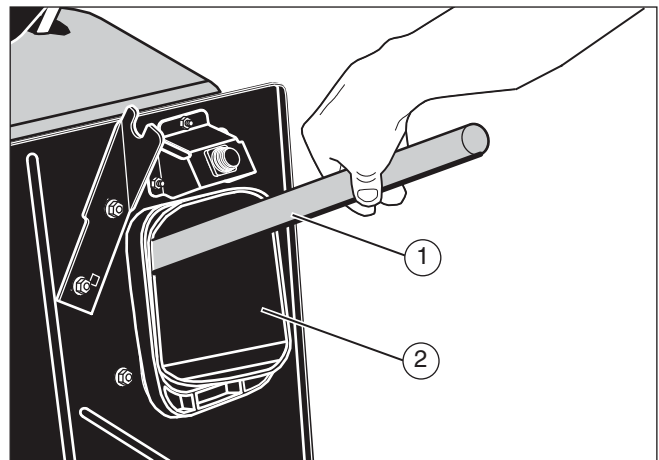

Figure 15
6. Use a long stick to push any grass and debris from the connector tube or the extension tube (see **Figure 15**).